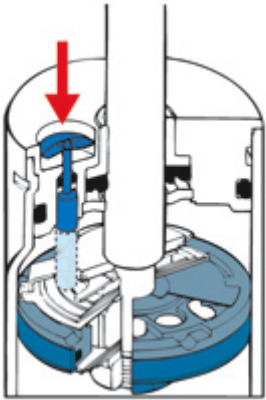

Figure 2: The handy adjustment button. Depress the button while turning clockwise to give increased damping forces.
1. Remove the dust cover and expose the adjusting button (figure 2).